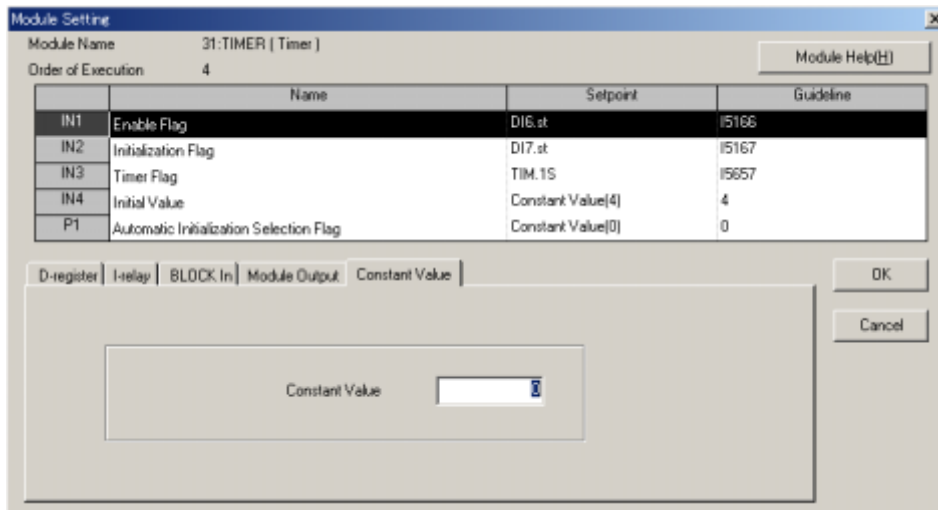

Figure 12.5.11 Configuration of the <P1> Parameter
- (16) The <P1> module parameter is waiting for the data setting.
- (17) Click the <Constant Value> index.
- (18) Type “0” in the text box and press the <Enter> key. (Figure 12.5.11)